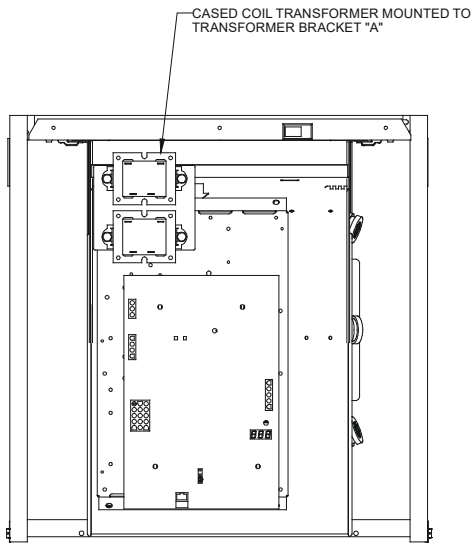

Figure 17
**NOTE:** Based on furnace or modular blower model, the applicable bracket and PCB transformer are mounted inside the furnace or modular blower cabinet. It is recommended to use self tapping screws to secure the PCB transformer and bracket plate to the mounting position. See Figures 17 through 23 to determine appropriate location.
**FOR 17.5" WIDTH CABINET FURNACE:** A furnace transformer should be removed from the PCB control deck. Align transformer bracket "A" and furnace transformer to the mounting holes of the furnace transformer on the PCB control deck. Bracket "A" should be located between the PCB control deck and furnace transformer (see Figure 17).